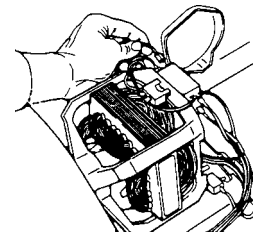

Fig. 28
5. Disconnect motor wiring harness. (Fig. 28) Remove idler pulley assembly and broken belt switch and place on new motor.